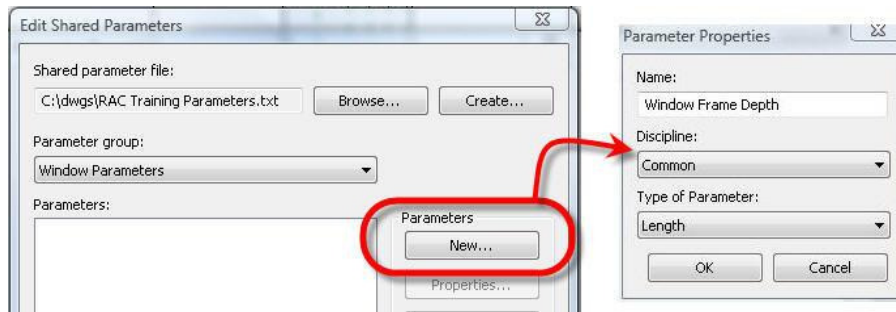

Figure 31. Creating the Window Frame Depth parameter.
12. Click New under Parameters to create the first window parameter. For the name, enter “Window Frame Depth” and set the Type to Length, as shown in Figure 31, then click OK to return to the Edit Shared Parameters dialog.